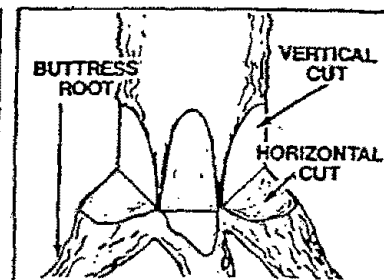

Figure 18
**NOTE:** If the tree has large buttress roots, remove before making the notch. Cut into the buttresses vertically, then horizontally. Figure 18.